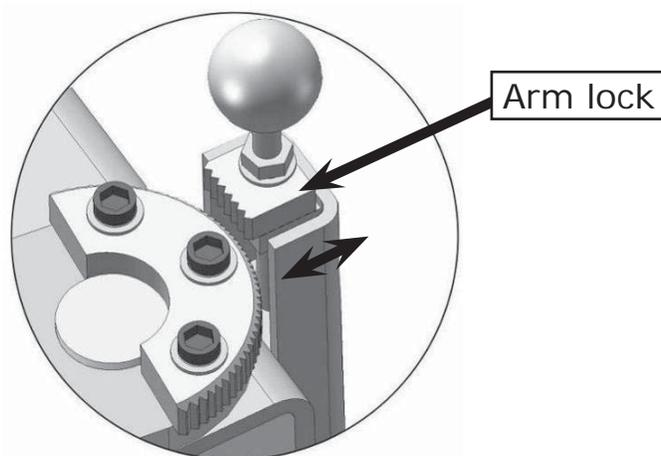

Fig. 33
3. Adjust the arm lock. Follow the arrow direction (See Fig. 33).